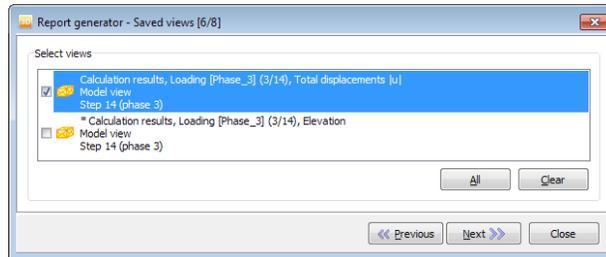

Figure 280: Report generator - Saved views
**Step 6:** Select saved views to be included in the report (Figure 280: Report generator - Saved views (on page 426)). For more details on saved views, see Store the view for reports (on page 409).